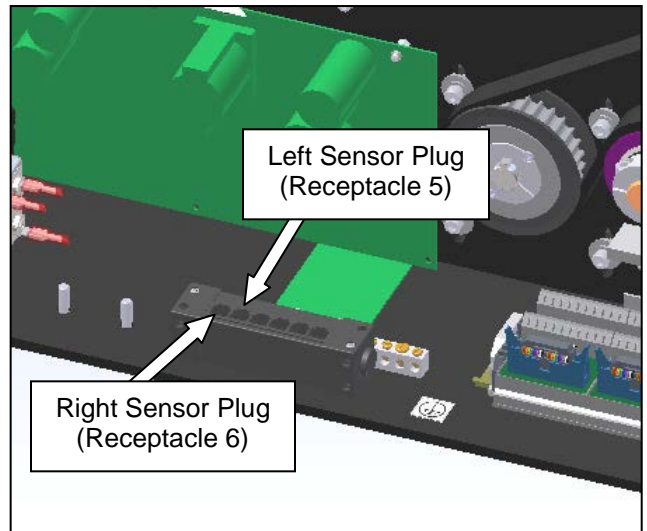

Figure 3-343. Stripper Plate Sensor Plugs
2. Locate the 6-position junction box. Ensure the plugs are fully inserted into the ports. The left stripper plate sensor will be in the receptacle numbered '5' and the right sensor will be in receptacle '6' (Figure 3-343).